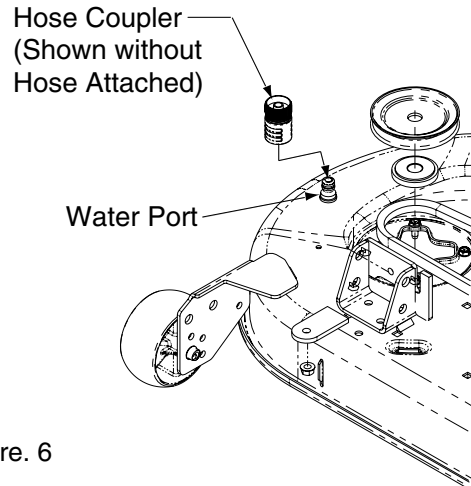

Figure. 6
- e. Thread hose coupler (packaged with this manual) onto the end of your garden hose. See Figure 6.
- f. Attach the hose coupler to the water port on your mower deck's surface. See Figure 6. Turn the water on.